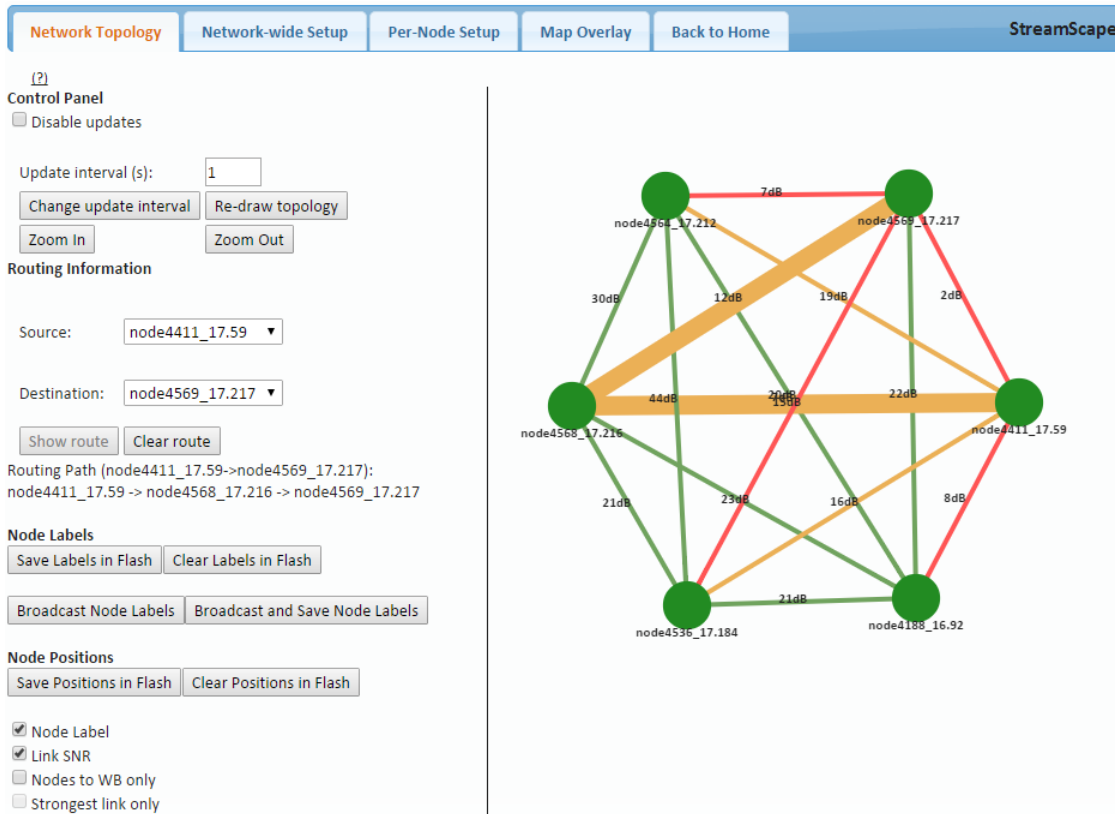

Figure 39 Routing Path
- **Routing Information** – The user can view the routing path between any 2 nodes within a network by simply specifying the source and destination node in the Control Panel on the left hand side. The path will turn bold as shown in **Figure 39** for the path from ‘node4411’ to ‘node4569’.